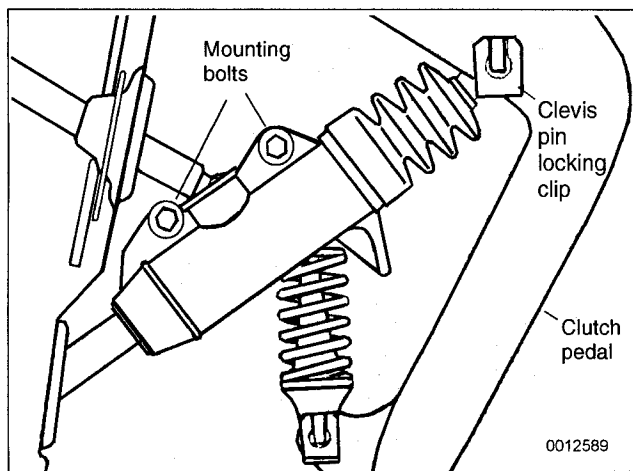

Fig. 3. Clutch master cylinder mounting bolts.
7. Remove master cylinder mounting bolts. See Fig. 3.